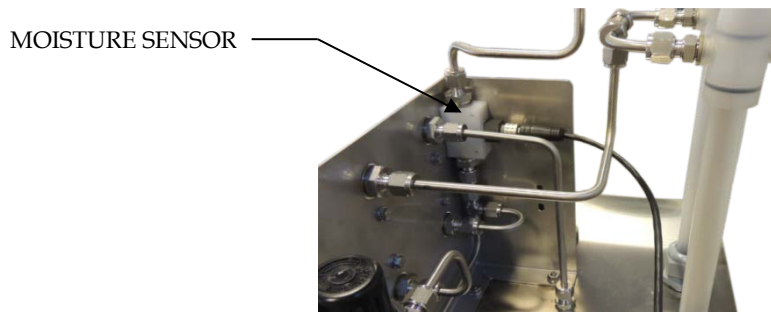

Figure 24 Moisture sensor
- 1) When scrubber is running and system is sampling, disconnect the heated sample line in Sample conditioning system (SCS) to make sure the sample is ambient air. Refer to Figure 24. Refer to Figure 1 for overview of installations.
- 2) Locate moisture sensor controller. Refer to Figure 24.
- 6) Re-connect heated sample line in SCS. Refer to Figure 24.